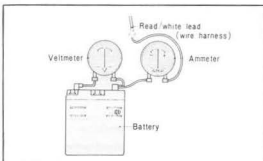

Fig. 102
- (1) Measure the specific gravity of battery electrolyte. If it is below 1.26 (as corrected to 20°C or 68°F), recharge the battery so that the specific gravity is 1.26—1.28 (as corrected to 20°C or 68°F). Conduct the charging test in the following manner. To charge battery, see page 47.
- (2) Connect the ammeter and voltmeter to the battery as shown in Fig. 102.
- (3) Start the engine. Simulate the NIGHT-TIME RIDING and DAYTIME RIDING conditions and compare the ammeter and voltmeter readings with the specifications at the bottom of this page.